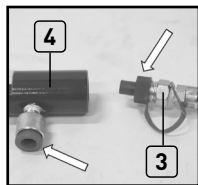

Fig.1
1. Unscrew the end caps from the hydraulic hose w/coupling and hydraulic ram (Fig1). Retain end caps for use when storing the kit.